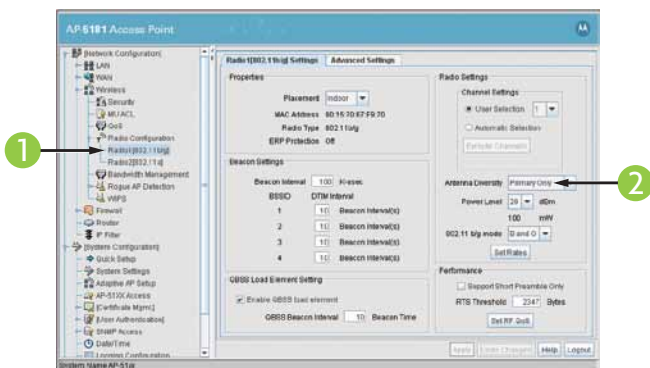

Figure 4.4.1
Consult your AP-5181 documentation to access the Radio Configuration Software to configure Radio 1 to use only the Primary Antenna Port. Using the Left side navigation tree, navigate to the Radio 1 (802.11 b/g). The file path is: Network Configuration\Wireless\Radio Configuration\Radio 1 (802.11 b/g) (Figure 4.4.1) ①. In the Radio Settings dialog box set Antenna Diversity drop down to Primary Only (Figure 4.4.1) ②. Then apply your change.